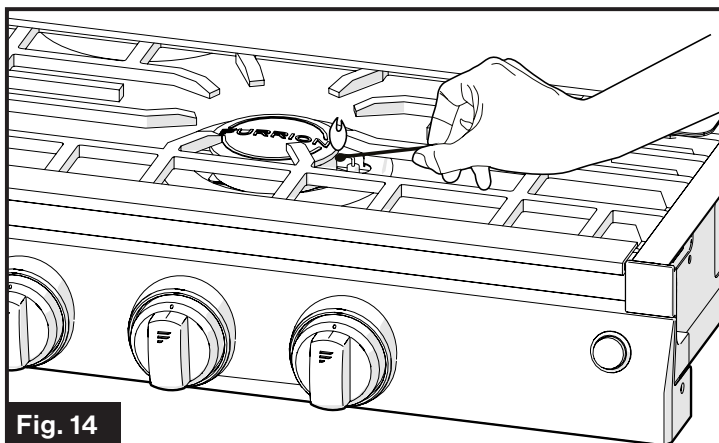

Fig. 14
2. Immediately strike and place a burning long wooden match or a gas lighter near the burner to light. (Fig. 14)